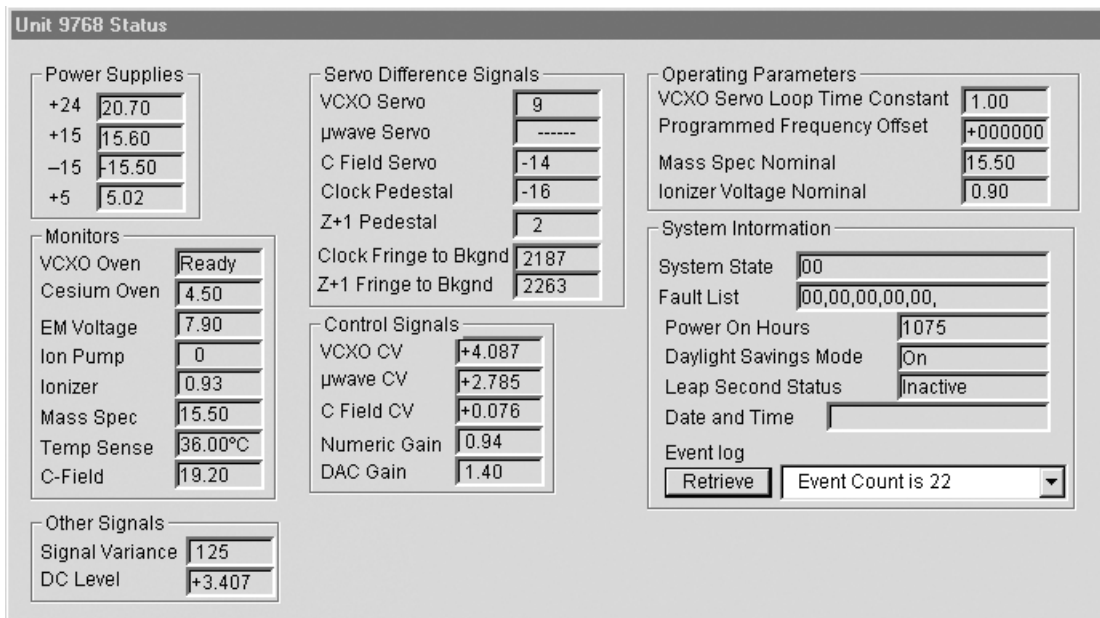

Figure 4-6. Real-Time Status Display
1. Select **View** from the menu and click **Monitors** from the menu option. This will open a large window showing the complete real-time status of the Cesium instrument, see Figure 4-6.